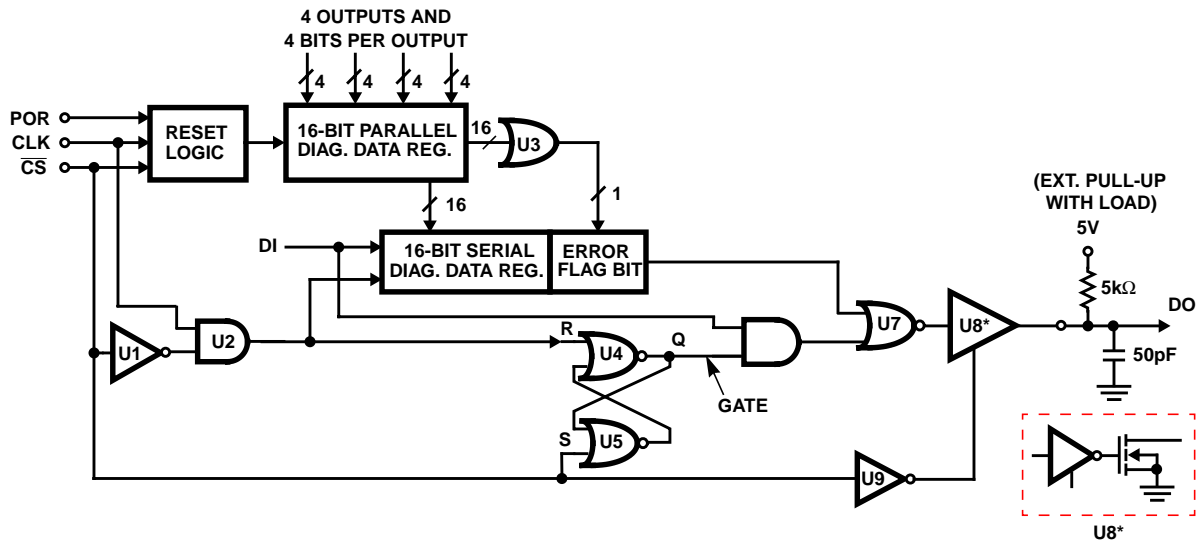
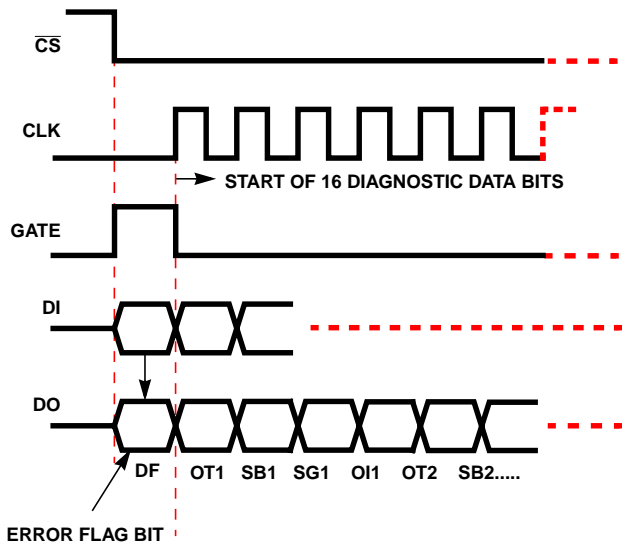

FIGURE 1. DIAGNOSTIC INTERFACE LOGIC
FIGURE 2. DATA AND CLOCK TIMING
HIP0080, HIP0081 Referring to Figure 1 and Figure 2, there are two sources that generate an OR'ed Fault Flag at DO when \overline{CS} goes low. The two fault data sources are (1) the on-chip fault detection and (2) the off-chip DI input from front end ICs in the cascade. The fault data bit, labeled DF (Data Fault) in Figure 2, contains the OR'ed inputs from both sources. The DF bit is not part of the 16-bit serial diagnostic data sequence. In cascaded operation, the DI input for the first of the selected chips should be tied low. And, in single IC operation (no cascade), the DI input should also be tied low. In cascaded operation, the Error Flags are cascaded via the DI inputs.
HIP0080, HIP0081 The last IC in the string ORs its own 16 fault bits in the parallel diagnostic register data and sends this data bit to an Error Flag register. The Error Flag register outputs the presence of a fault in one or more bits of the parallel diagnostic data register. As shown in Figure 2, the Error Flag is the first bit in front of the serial register and is input to OR Gate, U7 with the DI input. The DI input passes thru AND Gate, U6 when the GATE signal is high and output via the amplifier U8 to DO. The output amplifier U8 is active only while \overline{CS} is low. When \overline{CS} is low, the RS Flip-Flop drives the GATE output high. When the GATE is high, the cascaded DF bits are jammed from DI to DO. All Error Flags in the cascade are cleared (by the CLK input) when the serial diagnostic data is clocked out of DO.
HIP0080, HIP0081Technically, the HIP0080 and HIP0081 fault data has only 16 bits. Except for the Error Flag, DF data bit shown in Figure 2, the format matches that of a normal CPOL = 0, CPHA=1 SPI protocol (polarities, phase, etc). The DF bit from the DO output is active only until the clock starts. The best way to take advantage of it (if desired) is to connect the DO to the SPI bus, and also to a port pin, or other logic input. After CS goes low and before the SPI clocks starts, the DF bit can be read. If it is a zero, then the rest of the data does not have to be read. (The data will be all 0's = no errors). If the DF bit = 1, then the data must be read to find out which bit(s) is set.